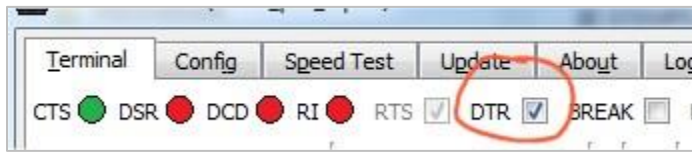

Figure 3: Reassert DTR
9. Assert DTR by checking the DTR checkbox as shown in Figure 3.